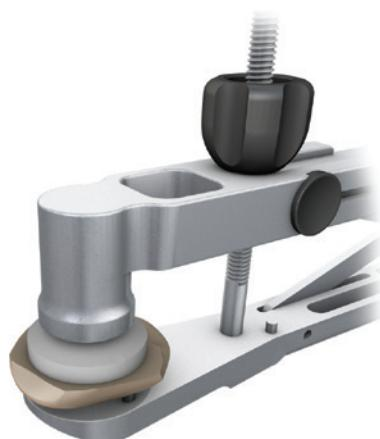

Figure 65
- 4 Clamp the patellar implant into the bone and remove the extruded cement (Figure 65).